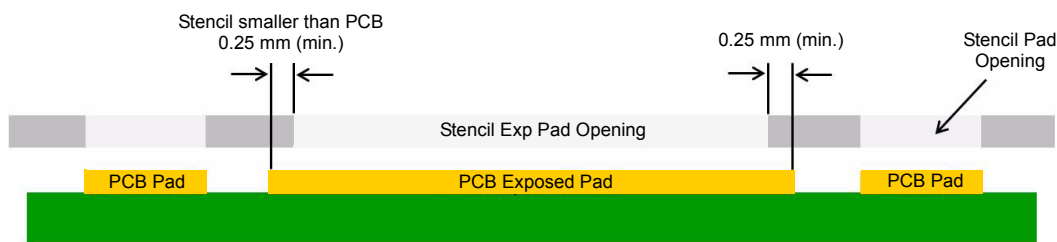

Figure 23. Reduced Solder Stencil Aperture for Exposed Pad
- On DFN/QFN with exposed pads, the EP stencil aperture openings should be 0.25 mm smaller than the copper pads on PCB, as shown in Figure 23. This will allow for proper registration of the stencil to the pad pattern